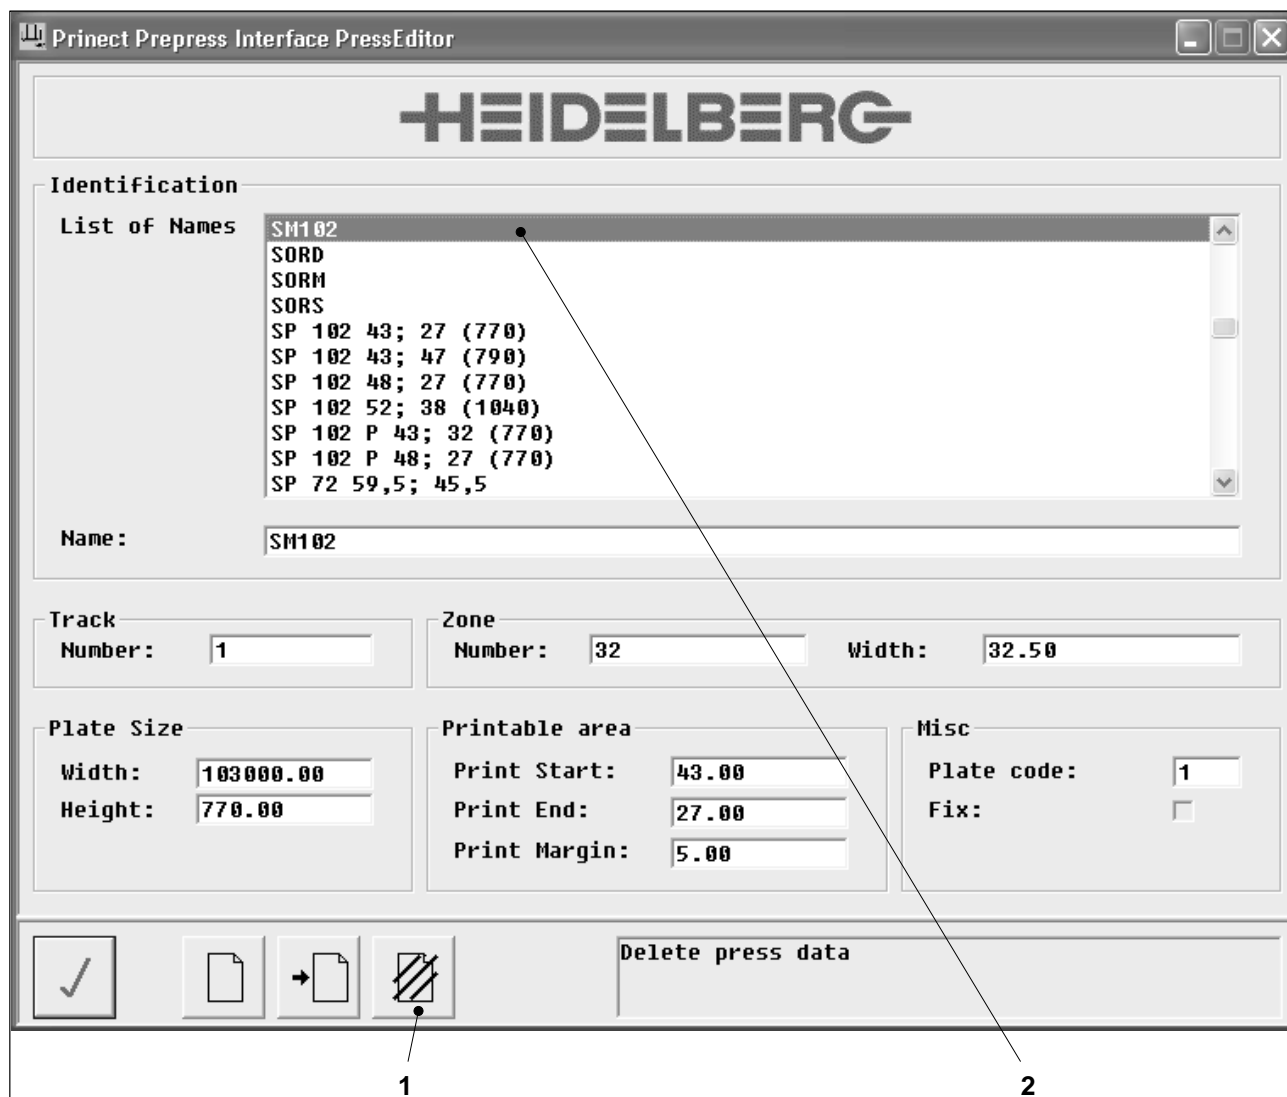

Fig. 19 Deleting press from the database.
1. Select the press you want to delete from the list of names (Fig. 19/2).
You can only delete presses which were added to the original list. If you select a press which is contained in the database by default, the button *Delete printing press* (Fig. 19/1) will be gray and inactive.
2. Click on the *Delete printing press* button (Fig. 19/1).